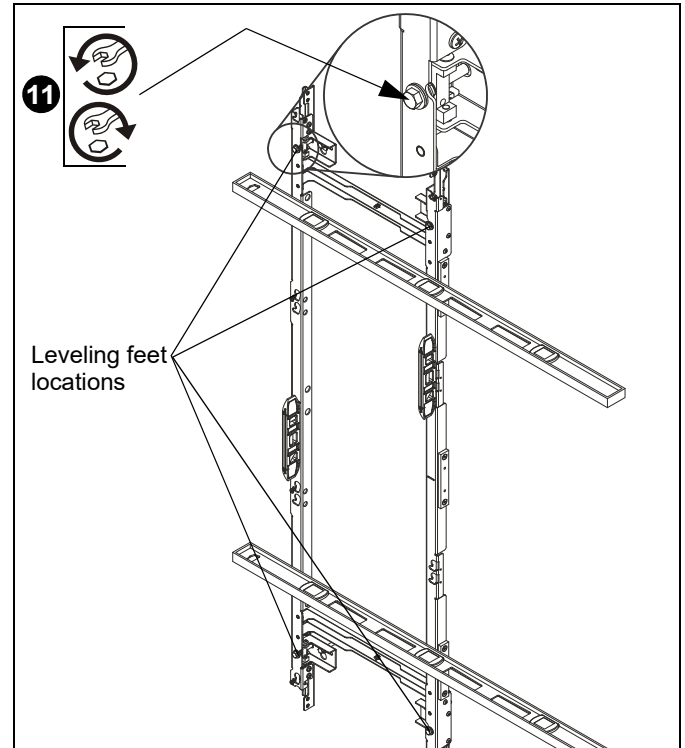

Figure 9
11. Using a level on the front of the mount in various places, adjust the leveling feet on the mount until the mount is plumb. (See Figure 9)